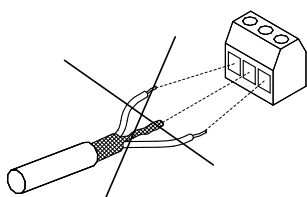

Fig. 142 Do not twist the screen ends
- Avoid terminating the screen by twisting the ends. See fig. 142. Use cable clamps or EMC screwed cable entries instead.